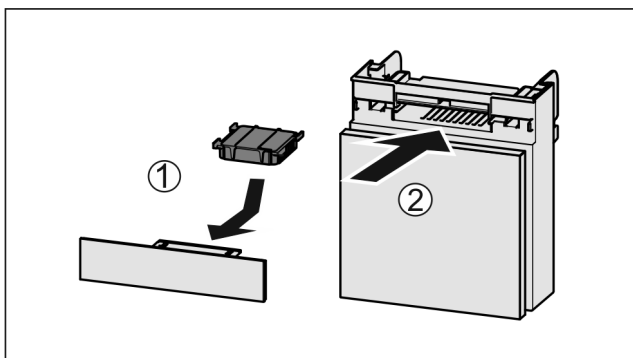

Fig. 193
- Insert the carbon filter as shown in the diagram Fig. 193 (1).
- Push the compartment in Fig. 193 (2).